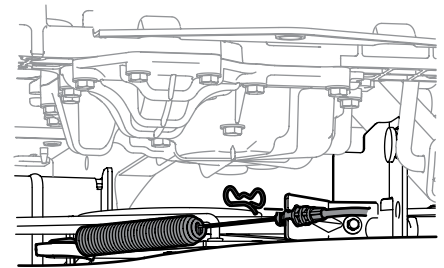

Figure 4-2
7. Remove the bow pin that secures the PTO cable to the bracket on the deck, slide the PTO cable out of the bracket and unhook the spring from the idler bracket. See Figure 4-2.